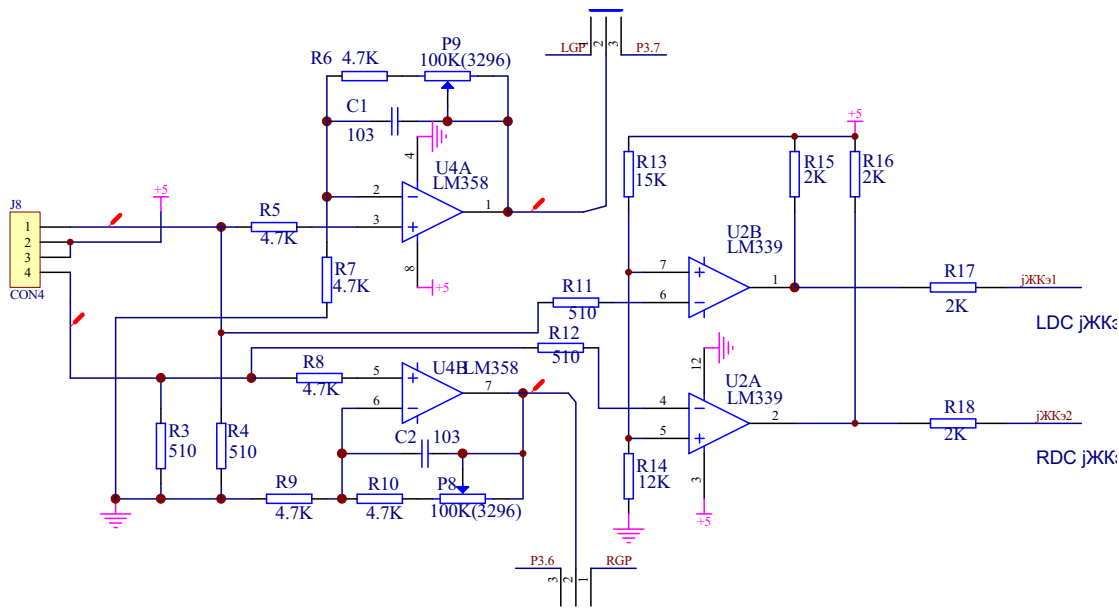

Fig.13A Left and Right Counting Sensor Circuit Diagram
(1) OLD PRO85, PRO85U (Refer to Fig.13A)